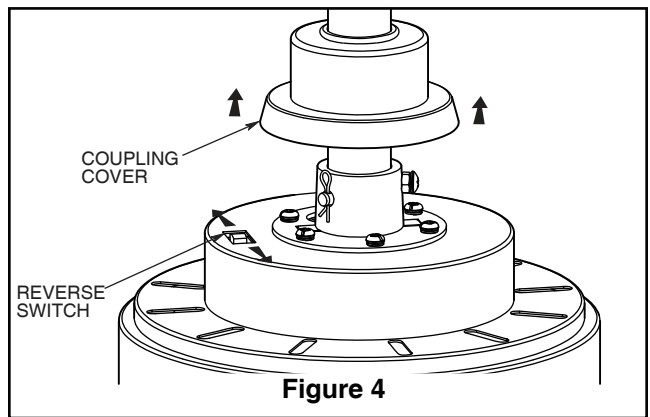

Figure 4
3. **LEARN MODE PROCESS:** (Figure 4)
- 4. Connect the 2-pin connector from the socket plate assembly to 2-pin connector from motor assembly (Figure 4).
4. If airflow is desired in the opposite direction, turn the fan off and wait for the blades to stop turning. Slide the coupling cover up to expose the reverse switch. Then slide the reverse switch on top of motor assembly to the opposite position and turn fan on again (Figure 4).